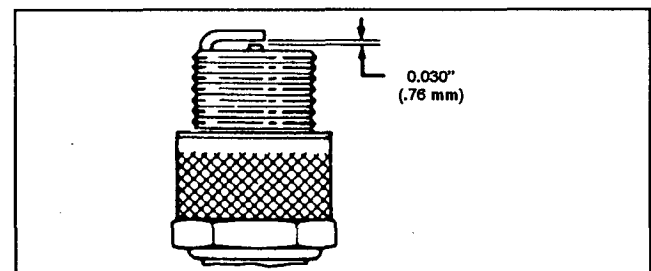

Figure 16
3. Set air gap at 0.030" (0.76 mm) (Fig. 16). Install correctly gapped spark plug and gasket seal. Tighten plug firmly to 15 ft-lb (20 N·m).